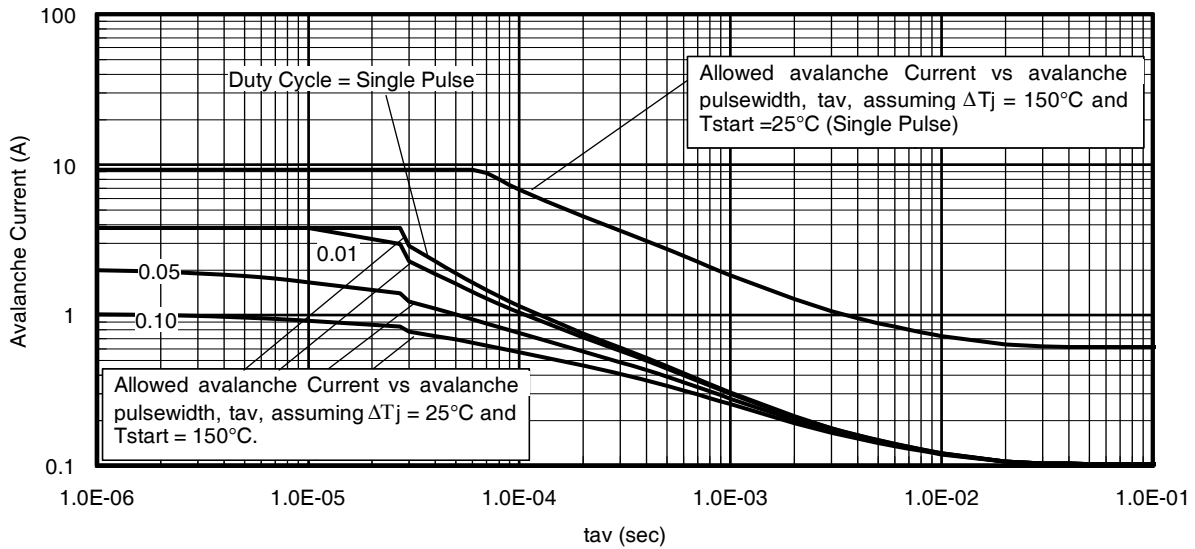

Fig 15. Typical Avalanche Current vs. Pulsewidth
**Notes on Repetitive Avalanche Curves , Figures 15, 16:
7. ΔT = Allowable rise in junction temperature, not to exceed T_{jmax} (assumed as 25°C in Figure 15, 16).